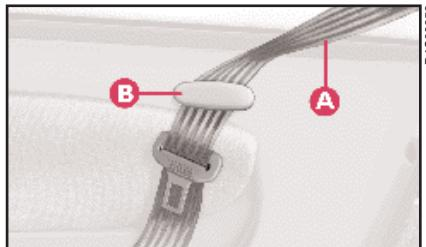

fig. 76
- 1) Make sure that the side seat belts A (fig. 76) have been inserted into the corresponding bracket B.